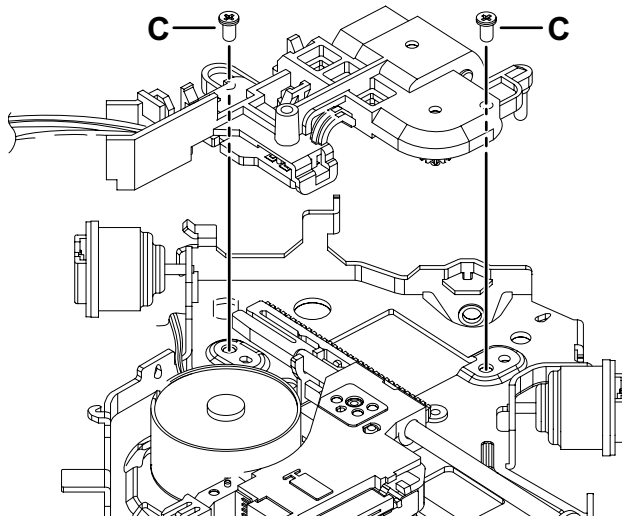

Fig.6
3.2.3 Removing the Pickup (See Fig.6, 7)
- (1) Remove the two screws **C** attaching the feed bracket assembly. (See Fig.6)